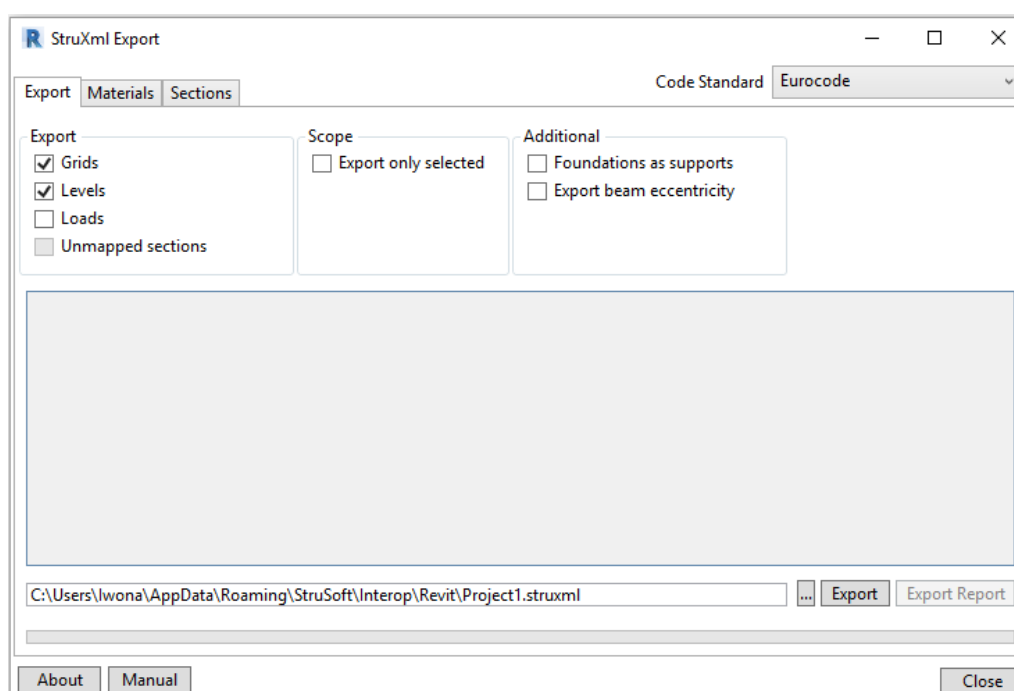

Figure III-34
5.1.1. After launching StruXML Export dialog there are no warnings about unmapped elements, as shown in Figure III-34.